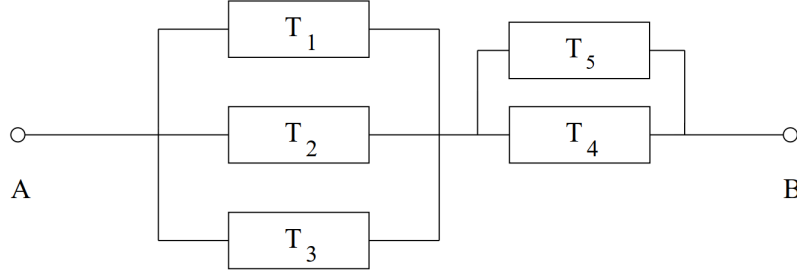

Figure 1: System to analyze
The system to analyze, seen in Figure 1, has four components:
Looking at the system in Figure 1 and the derivation of its survival function in eq. (2), it can be noted that component four has a high probability of causing the death of the system. It is the task of this assignment to find the probability that this component will be responsible for the death of the system.
Observing the system in Figure 1, the life length of the system is given by  $T = \min\{\max[T_1, T_2, T_3], T_4\}$ . Thus, it can be derived that the probability of component four causing failure is